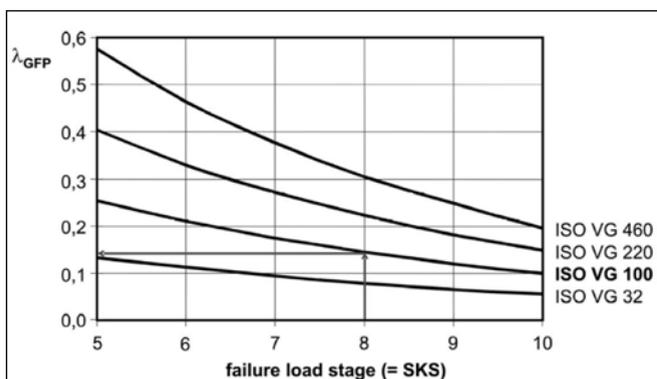

Figure 3—Required specific film thickness λ_{GFP} for mineral oil.
Determining permissible specific film thickness λ_{GFP} is the most difficult part to understand when referencing the technical report. There is a simple but inaccurate way to identify this value using a diagram (Ref. 4) where, for mineral oils, the permissible specific film thickness λ_{GFP} as a function of the viscosity of the lubricant ν and the load capacity number *SKS* of the lubricant (Fig. 3) are found. (5)
The *SKS* number is determined according to the FVA information sheet (Ref. 2) and may be found on the lubricant data sheets of the leading suppliers. Note that Figure 3 is